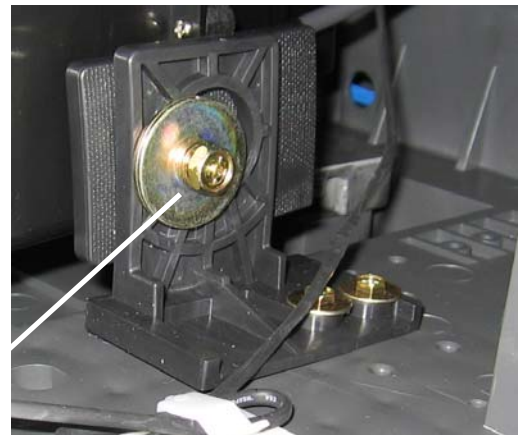

Figure 3-7: [B-2] Lock Screw
- [B-2] is accessible from the rear of the unit on the right side of the Optical Engine, refer to *Figure 3-7*.
- 2) Tighten side locking screw [B-2]. (*Figure 3-7*)